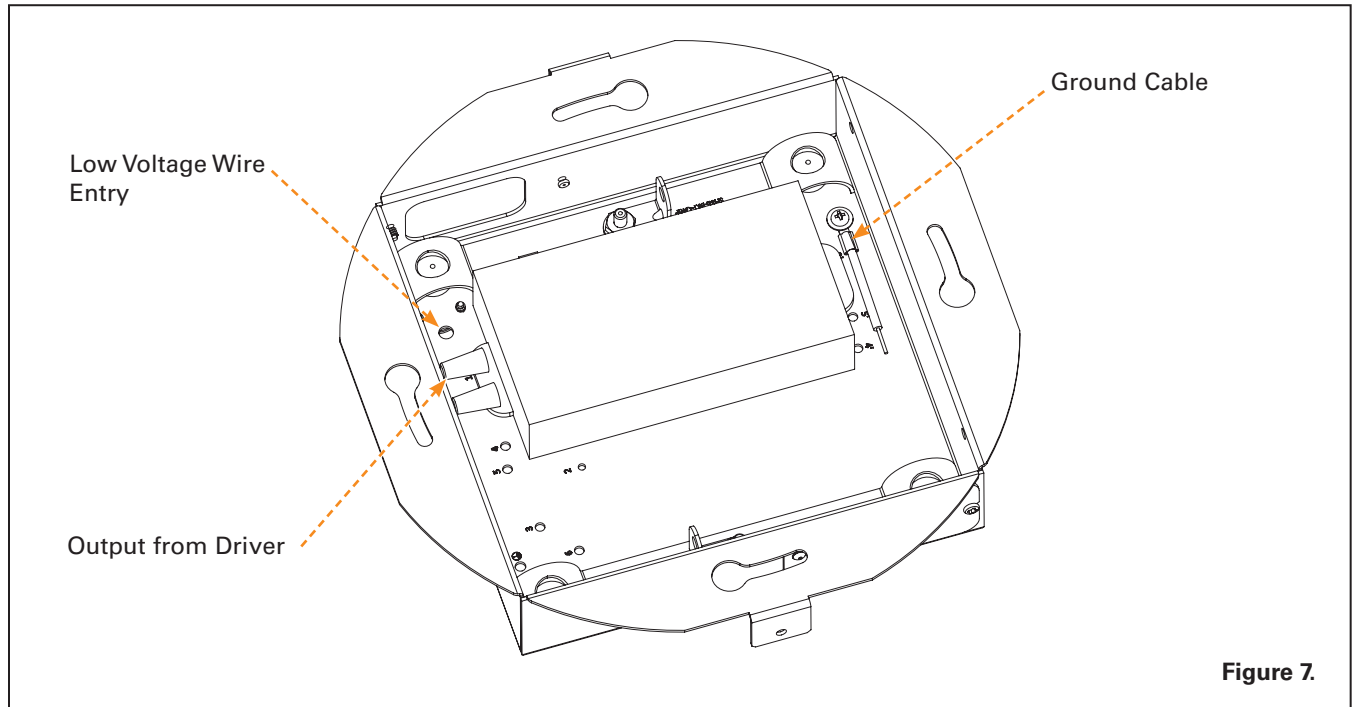

Figure 7.
Step 7. Make the Low Voltage wire connections to the driver (LED output), with the Wire nuts provided. Figure 7
Step 8. Use the Ground Cable from driver box, to ground from J-Box wire and make connection with the wire nuts provided for ground. Figure 7